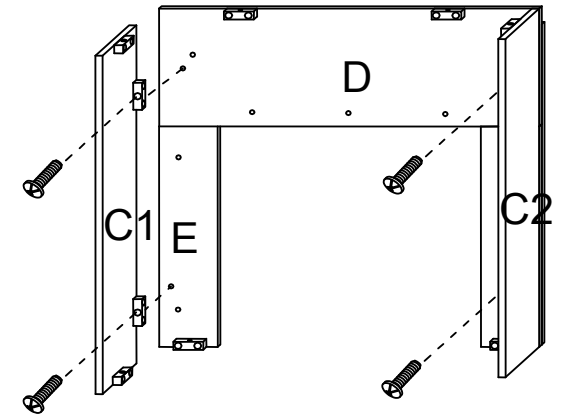

Figure 4
Attach 2 **Left & Right SIDE FRONT PANELS** (C1 & C2) to the **FRONT PANELS** (D, E & F) with 4 **KD SCREWS** (U) (2 screws for each side through the plastic connectors). See Figure 4.